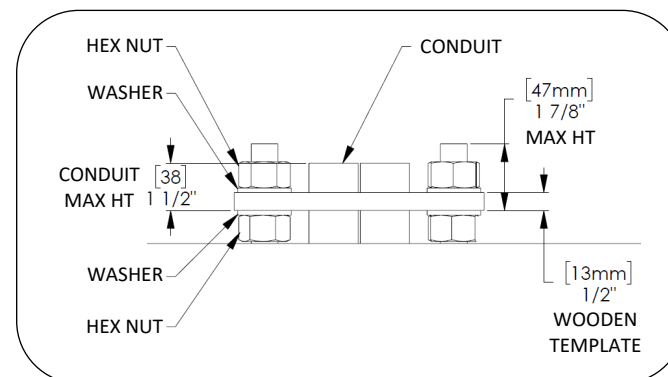

Fig. 2 – MAX conduit and anchor bolt heights
2. Install anchor hooks, hex nuts, washers and wooden template as shown in Fig 2. Level template in all directions. **Note:** template thickness is less than base plate thickness. Dimensions given account for the difference.